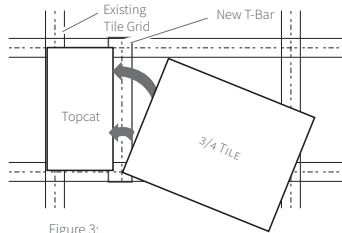

Figure 3:
- Locate the 2' ceiling grid t-bar provided. Locate the attachment slots in the existing ceiling grid and snap the new t-bar into place to create two openings to create a 1' x 2' and a 2' x 3' opening (Figure 3) or two 1' x 2' openings (Figure 5).